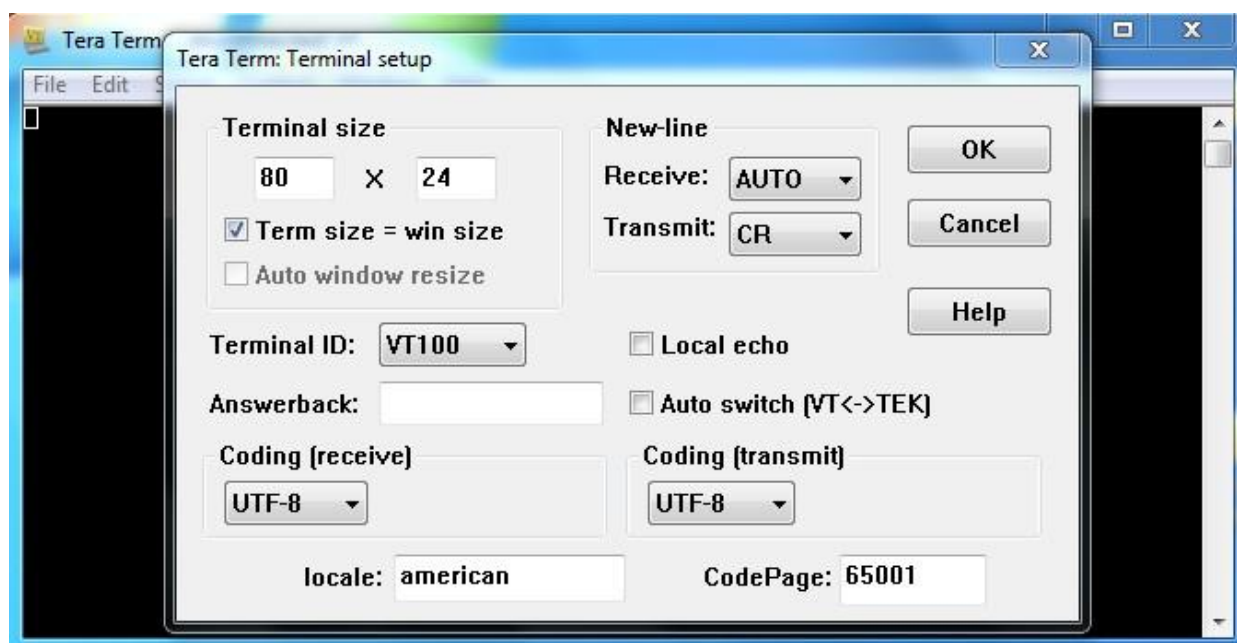

Figure 17 Tera Term Terminal Setup Window
3. Select **Setup** → **Terminal** → **New Line** → **Receive** → **Auto** to configure the new line character as shown in Figure 17.